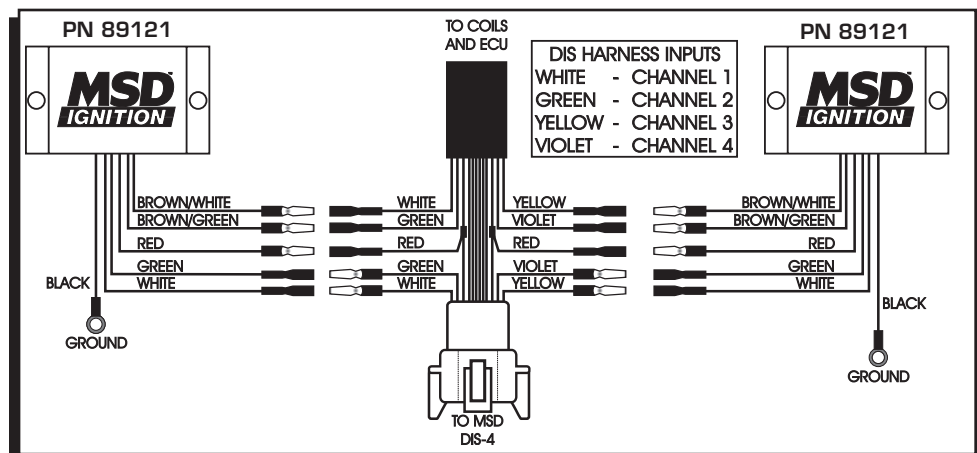

Figure 2 Installation to an MSD DIS-4 Ignition.
The Adapter has six wires that need to be connected. The chart shows each wire's application. Figure 2 shows how to wire the Adapter to the DIS ignitions.
**Note:** The procedure shown in Figure 2 will be performed twice for each DIS-4 Ignition PN 62152 (or H.O. PN 62153).